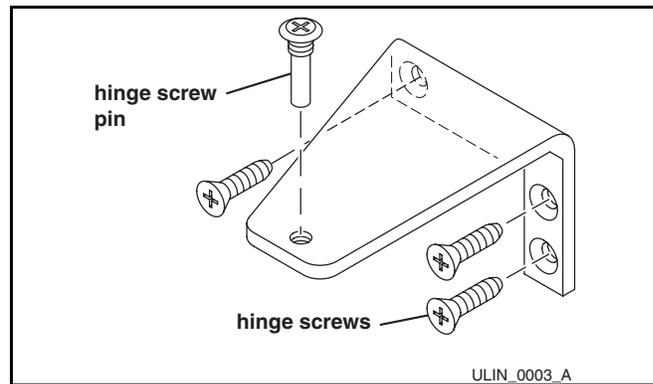

Figure 9
3. Remove top hinge (3 screws), reinstall hinge screw pin, and remount on opposite side **BOTTOM** (**Figure 9**).